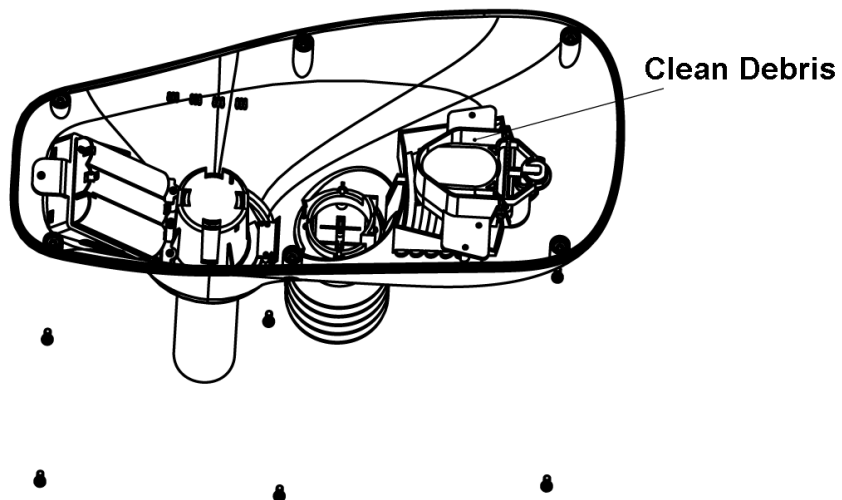

Figure 55
3. Clean any debris and spider webs, as shown in Figure 55.